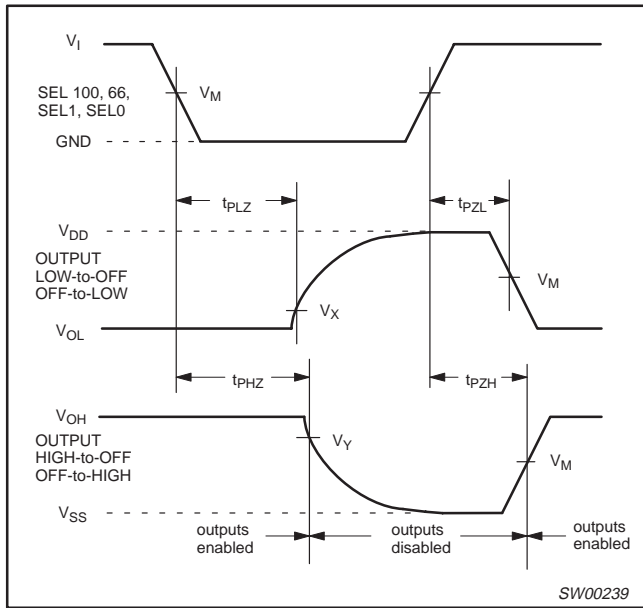

Figure 4. 3-State enable and disable times.
- T_{HKH} is measured @ 2.0V as shown in Figure 4.
- T_{HKL} is measured @ 0.4V as shown in Figure 4.